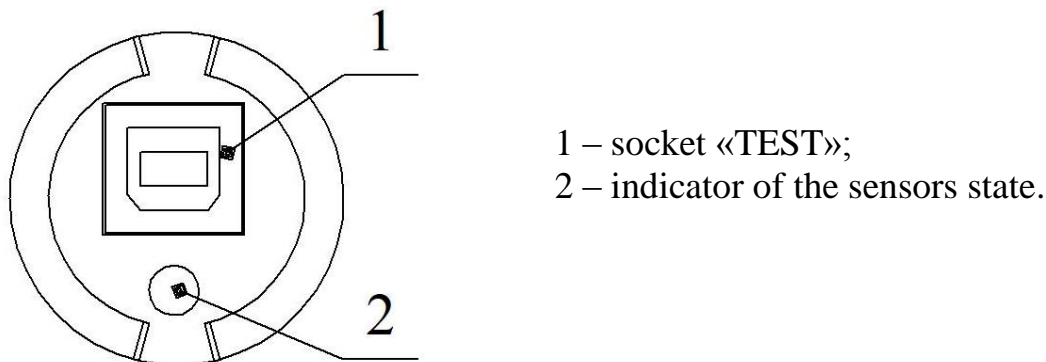

Figure 1.6 – Configuration elements of the Rx unit of the sensors BARRIER-M (general purpose)
1.4.4.1 The location of the configuration elements under the cap of the Tx unit (Rx unit) are given in Figures 1.6, 1.7.